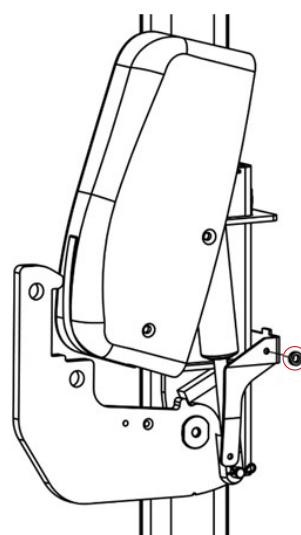

Fig 12.11c
- Refit the hidden spacer that was removed from the position shown in Fig 12.11c.